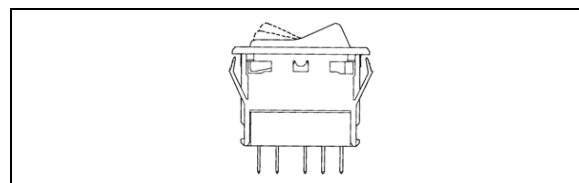

FIGURE 30: SWITCH
3. To install a new switch, reverse the procedure (FIGURE 30).